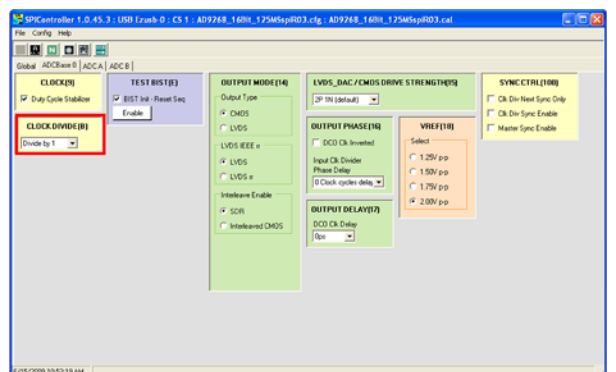
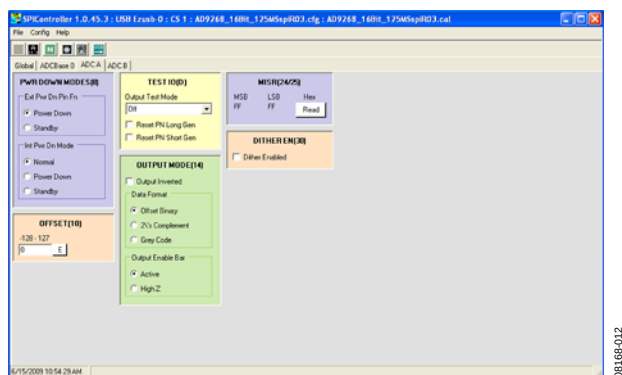

Figure 11. SPI Controller, CLOCK DIVIDE(B) Box
Figure 12. SPI Controller, Example ADC A Page
3. In the **ADCBASE 0** tab of the **SPIController** window, find the **CLOCK DIVIDE(B)** box (see Figure 11). If using the clock divider, use the drop-down box to select the correct clock divide ratio, if necessary. See the appropriate part data sheet; the AN-878 Application Note, *High Speed ADC SPI Control Software*; and the AN-877 Application Note, *Interfacing to High Speed ADCs via SPI*, for additional information.
4. Note that other settings can be changed on the **ADCBASE 0** page (see Figure 11) and the **ADC A** and **ADC B** pages (see Figure 12) to set up the part in the desired mode. The **ADCBASE 0** page settings affect the entire part, whereas the settings on the **ADC A** and **ADC B** pages affect the selected channel only. See the appropriate part data sheet; the AN-878 Application Note, *High Speed ADC SPI Control Software*; and the AN-877 Application Note, *Interfacing to High Speed ADCs via SPI*, for additional information on the available settings.